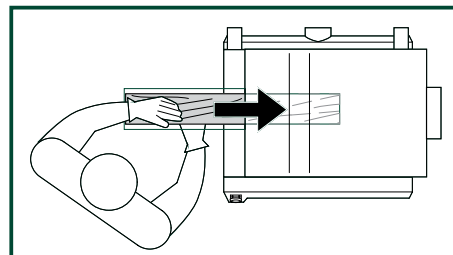

FIG. 43
- When planing, the feeding direction of the work piece is left-to-right under the cutterhead. FIGs. 43, 44.
1. To feed the work piece into the machine, assume proper operating position, FIG. 43. Stand offset to one side of the feed opening to avoid any kick-back, should it occur. Do not push the lumber once the infeed roller has been engaged. Let the infeed roller move the work piece into the planer at its own pace.